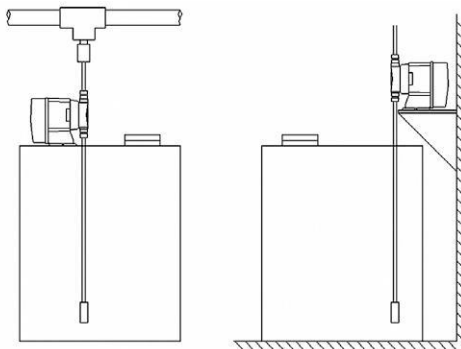

图 2 Fig.2
- 吸入提升式安装。当吸入水头小于1.5米时，对于比重大于水的溶液可采用此种安装方法。如溶液比重较大时请与厂家联系。（如图2）
than that of water. If the specific gravity of the liquid is higher, please contact the manufacturer. (as shown in Fig.2)